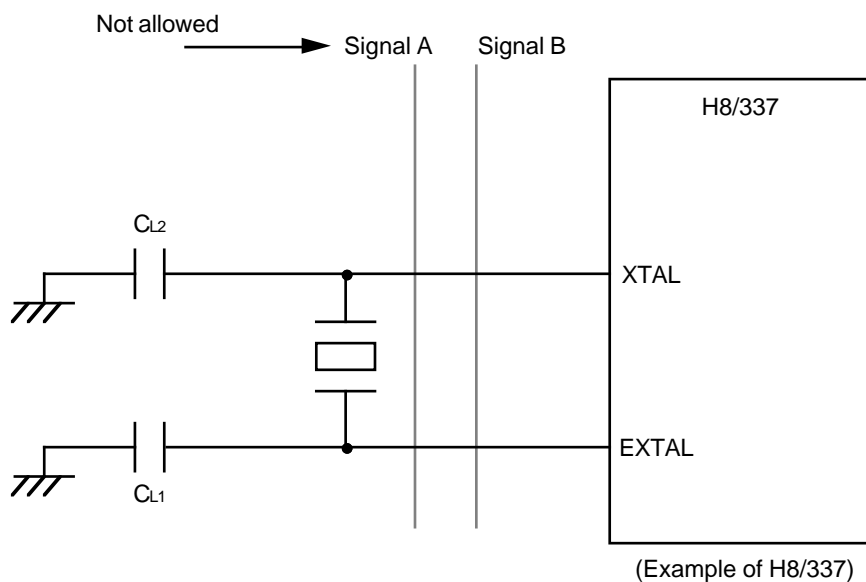

Figure 15-4. Notes on Board Design around External Crystal
③ **Note on Board Design:** When an external crystal is connected, other signal lines should be kept away from the crystal circuit to prevent induction from interfering with correct oscillation. See figure 15-4. The crystal and its load capacitors should be placed as close as possible to the XTAL and EXTAL pins.